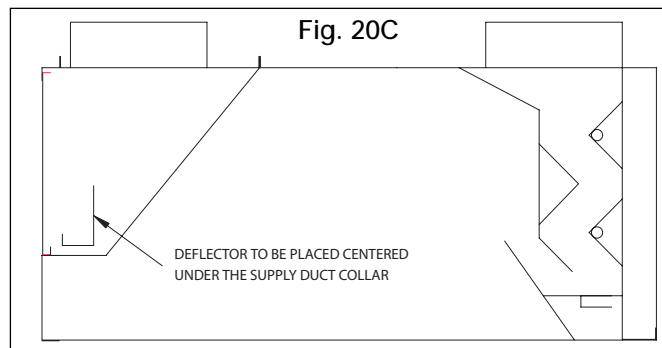

Fig. 20C
4. The deflector is centered under the supply duct collar. (see Fig. 20C)